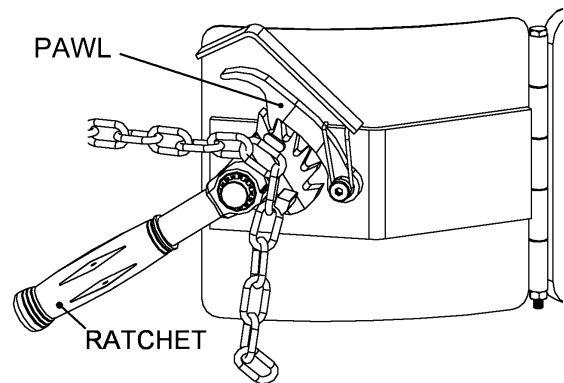

Figure 3.2
5. Drape the cinch chain across the front of the drum and insert one link into the slot on the ratchet handle (item #33). Turn the ratchet handle clockwise to tighten the cinch chain around the drum (Figure 3.2).